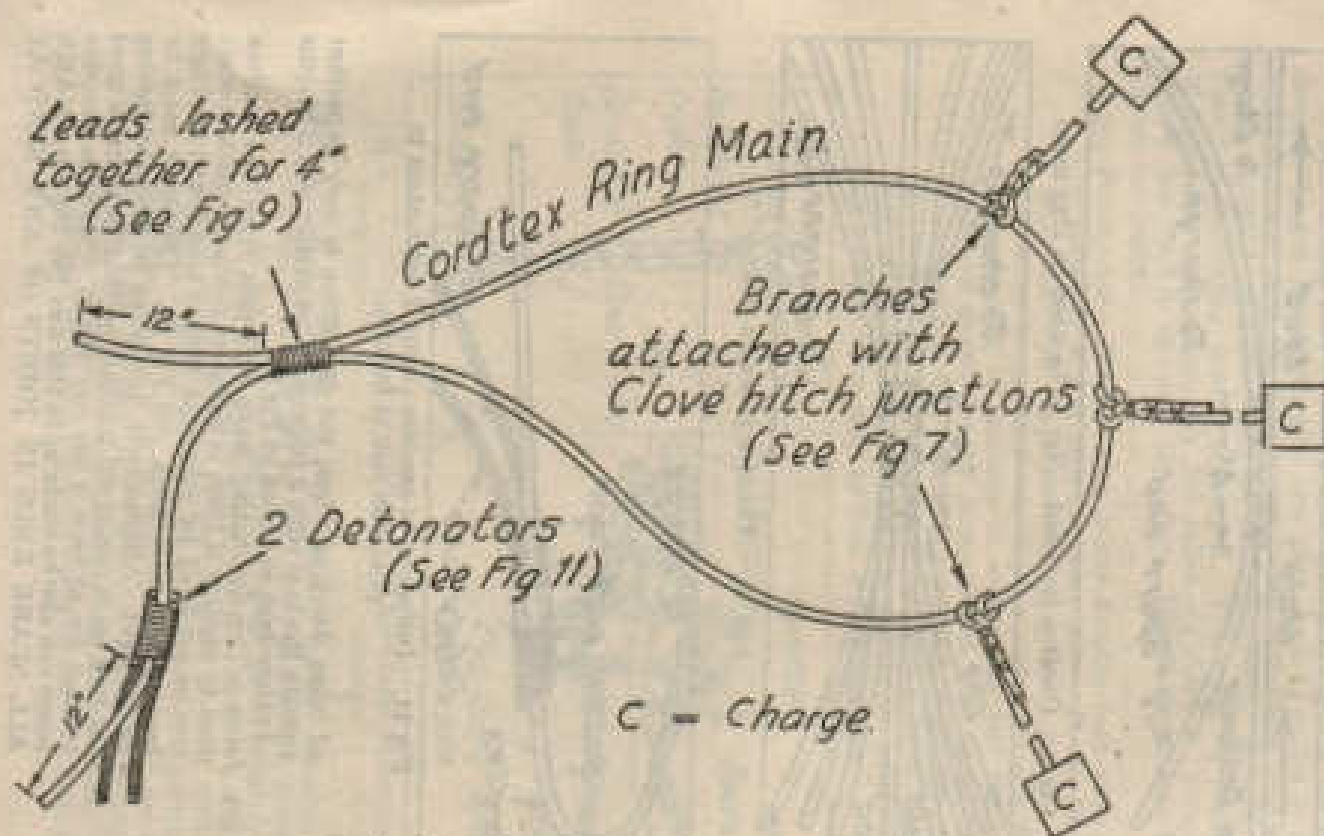

Fig 12. Simple cordtex or primacord ring main
- (e) *Ring mains.*—The most efficient method of firing more than one charge simultaneously is by the use of a ring main made up with detonating fuse (see Fig 12). The main is initiated with two detonators and two lengths of safety fuse as already described.